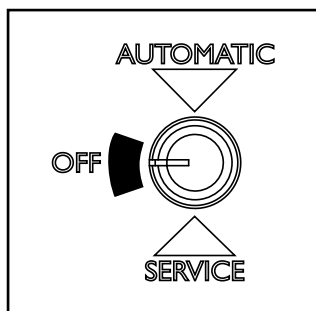

Figure 4.1
1. The wall control is required for proper operation of this appliance in "Automatic" mode. At this time, fill the hopper with pellets, insure the control is set to "OFF". Figure 4.1. Plug the power cord into a properly grounded, nearby outlet.